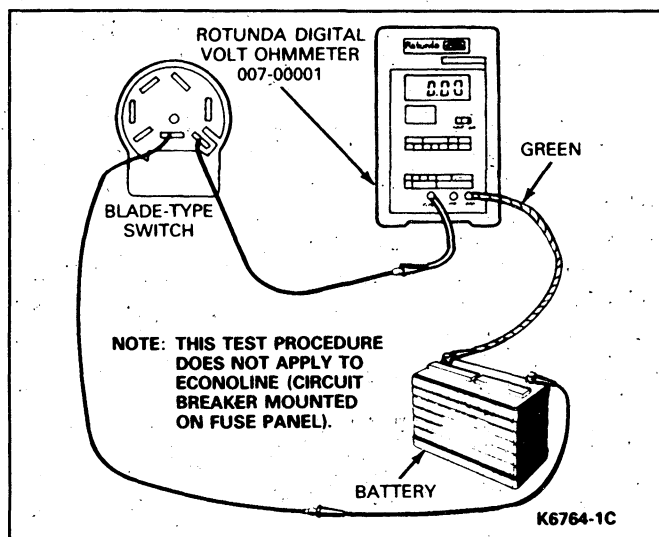

FIG. 8 Circuit Breaker Test
Two separate tests are necessary to check for correct circuit breaker operation when circuit breaker is part of wiper switch (Fig. 8).
1. Before connecting the switch to the Rotunda Digital Volt-Ohmmeter 007-00001 or equivalent (Fig. 8), short the tester leads together and adjust the current draw until it equals the circuit breaker rating.
2. Connect the switch to the tester (Fig. 8). Leave the switch connected to the tester for ten minutes. Hold the current reading on the ammeter at the rated current. If the circuit breaker opens during